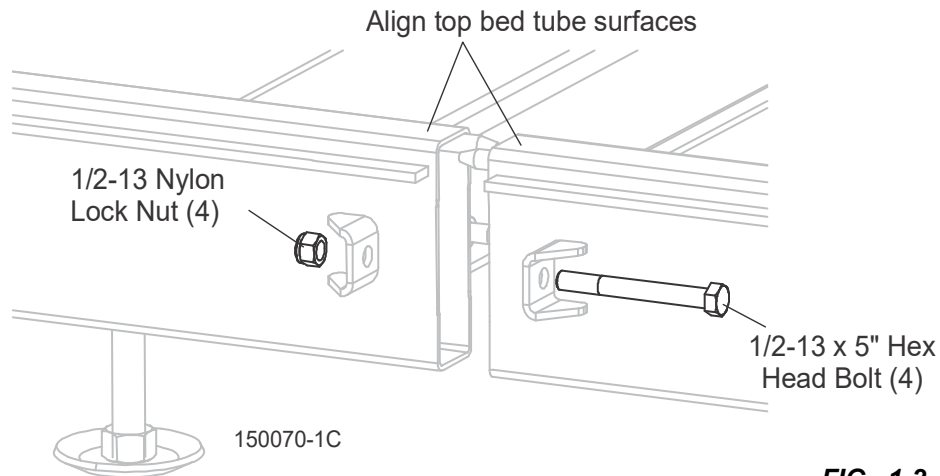

**FIG. 1-1**
4. Thread each leg through the bracket, the square nut, and the plate. (See FIG. 1-1.)